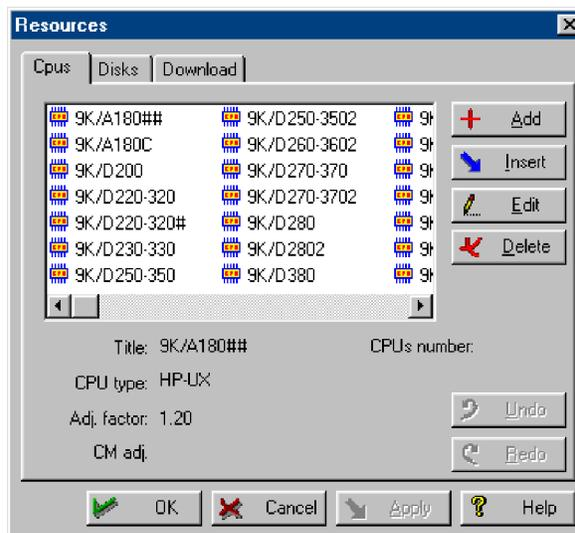

Figure 8.22 Resources dialog box: CPUs tab
- 2 In the **CPUs** tab, select a CPU to edit from the list box (only one CPU may be selected at a time). Notice the statistics for that particular CPU is displayed in the lower portion of the **CPUs** tab (Figure 8.22).